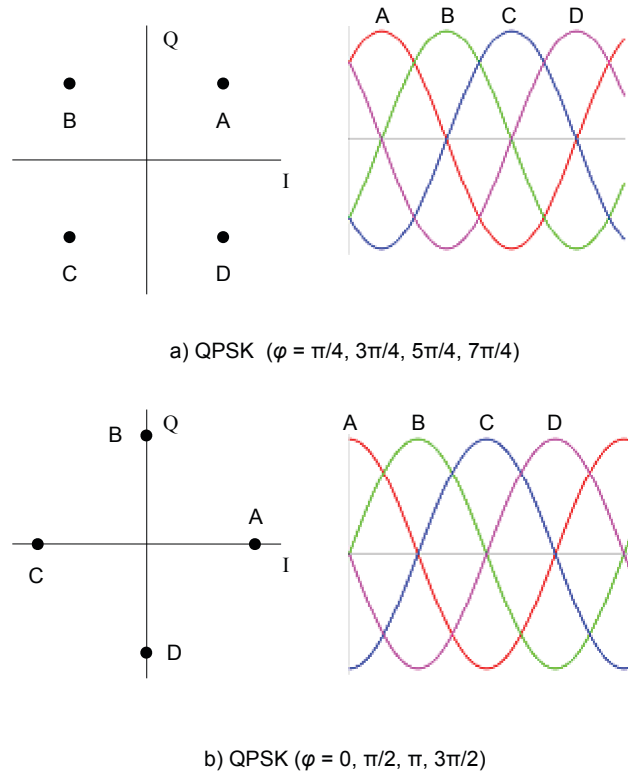

Figure 4. QPSK constellation and waveforms.
The ideal PSK constellation has M equidistant phase states and constant amplitude, resulting in a circular symmetry. With QPSK, therefore, $M = 4$ and the phases are separated by 90° , as shown in Figure 4.
Figure 4 shows two common representations of the QPSK constellation. The constellation points are arbitrarily labeled A, B, C and D, each of which represents one of the four possible dibits 00, 01, 10, and 11. The mapping between the dibits and the constellation points depends on the modulator circuit.
Beside each constellation in Figure 4 is a plot showing all four phases (modulation symbols) as sinusoids. In each of these representations, the four phases are spaced 90° ($\pi/2$ radians) apart. The only difference between these representations is the choice of the reference phase angle (φ_0 in Equation (3)).